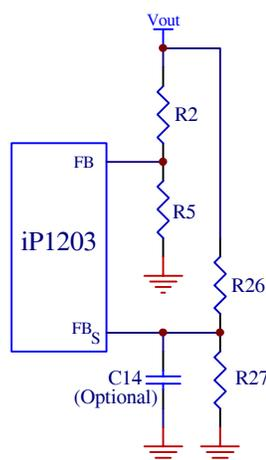

Fig. 14: Typical Scheme for Output Voltage Setting
The output of the iP1203 will shut down if it experiences a voltage in the range of 115% of  $V_{OUT}$ . The overvoltage sense pin  $FB_S$  is connected to the output through voltage dividers, R26 and R27 (Fig. 14), and the trip setpoint is programmed according to equation (1). A separate overvoltage sense pin  $FB_S$  is provided to protect the power supply output if for some reason the main feedback loop is lost (for instance, loss of feedback resistors). An optional 100pF capacitor (C14) is used for delay and filtering.
When selecting output capacitors, it is important to consider the overshoot performance of the power supply. If the amount of capacitance is not adequate, then, when unloading the output, the magnitude of the overshoot due to stored inductor energy, and depending on the speed of the response of the control loop, can exceed the overvoltage trip threshold of the iP1203 and can cause undesirable shutdown of the output. The magnitude of the overshoot should be kept below 1.125VOUT. To prevent the overshoot from tripping the output a delay can be added by installing capacitor C14 as shown in Fig.14.